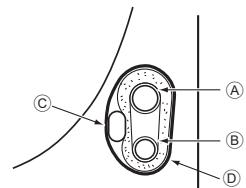

Fig. 4-4
4.4.1. Storing in the piping space of the unit (Fig. 4-4)
④ Gas pipe
⑤ Liquid pipe
⑥ Indoor/outdoor connection cable
⑦ Felt tape ③